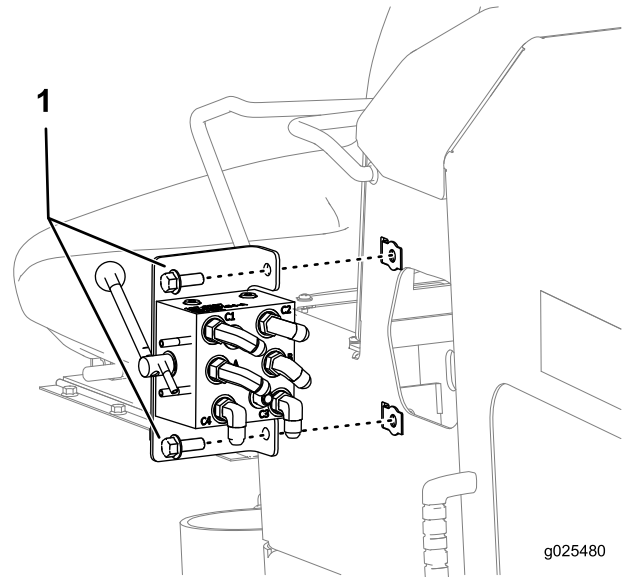

Figure 10
5. Attach the bracket to the machine using the bolts previously removed from the panel (Figure 10).